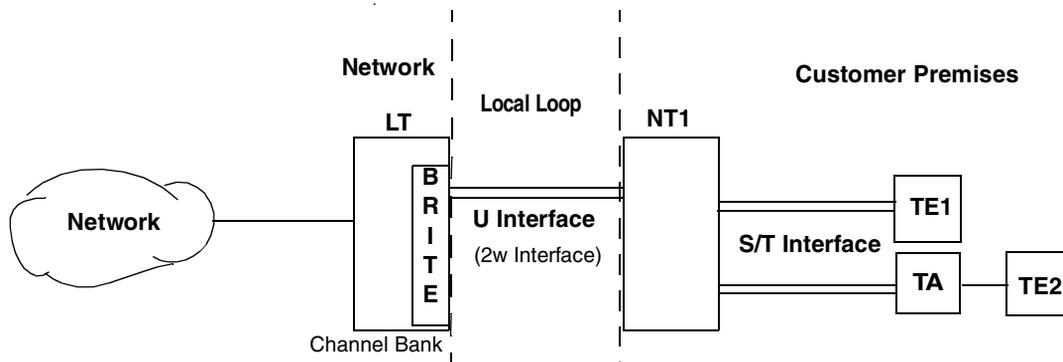

Figure 40 • ISDN BRI S/T and U Reference Points
The U reference point describes the interface between the Network Termination (NT) and the network Line Termination (LT). It is a two-wire interface with 2B1Q line coding. The network provides power via the U interface. Figure 40 shows the relationship between the customer premises and the local loop for the S/T and U interfaces.